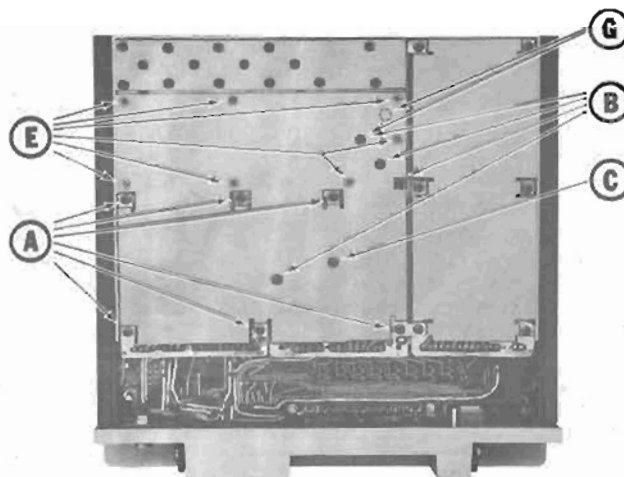

Figure 5 Disassembly Procedure (Bottom View)
3. To gain access to the bottom of the Osc/Mult and IFAS board, remove the six screws (A) holding the receiver bottom cover (see Figure 5).